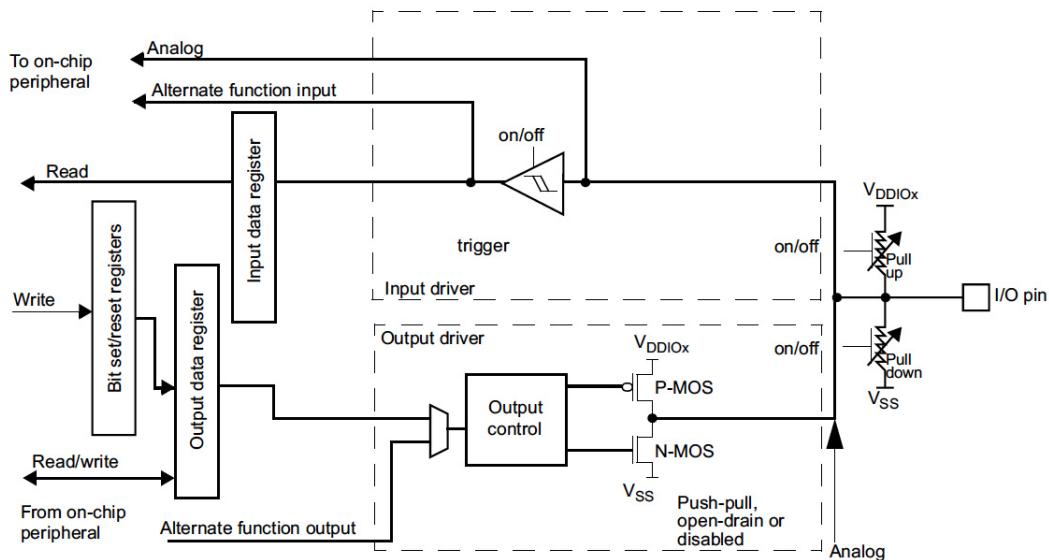

Figure 3B.2: The internal structure of a GPIO pin in the STM32F0 microcontroller.
Design an *8-bit UP/DOWN binary counter* using the STM32F051C6 microcontroller and your development board. All your code must be written in C.¹ The 8-bit binary count will be displayed on the 8 LEDs on the development board. The direction of the count (either UP or DOWN) will be controlled by pressing the push buttons SW1 and SW2. The layout of the devices on the UCT development board can be seen in figure 3B.1.
Figure 3B.1: The simple input/output devices on the UCT STM32F0 development board The basic I/O devices on the development board have been labelled as follows: **red** - digital outputs which have been connected to LEDs, **orange** - digital inputs which have been connected to normally open push buttons and **blue** - analogue inputs connected to two potentiometers.
The internal structure of a single pin in a port can be seen in figure 3B.2.
- Using the schematic for the UCT STM32F051 Dev. Board at the end of the practical sheet (figure 3B.3), identify which port(s) the LEDs are connected to on the UCT STM32 development board and which registers are needed to control their operation. **[5]**
- What values must be written to the registers in (b) if you wish to use push buttons SW0 (START), SW1 (UP) and SW2 (DOWN) as digital inputs? **[3]**